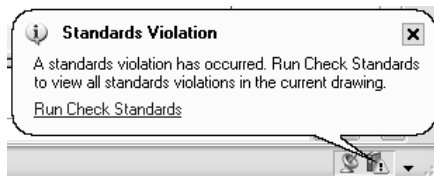

Figure 26-17: The status bar alert of a standards violation
- ♦ **Display standards status bar alert icon:** Displays an icon on the AutoCAD status bar, as shown in Figure 26-17. The icon has an exclamation point if there is a non-standard object in the drawing. A balloon appears to notify you that a standards violation has occurred. Click the Run Check Standards text or the icon to open the Check Standards dialog box so that you can fix the problems.